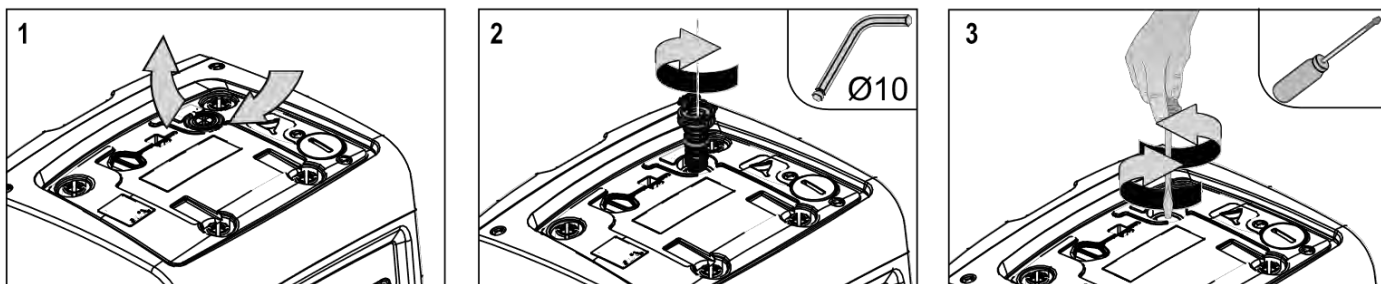

Figure 23
2. lift the rubber cover of the motor shaft access cap (Fig. 23);
3. using a 10mm hexagonal key, remove the motor shaft access cap (Fig. 23);
4. insert a straight tip screwdriver in the groove on the motor shaft and manoeuvre, turning in 2 directions (Fig. 23);